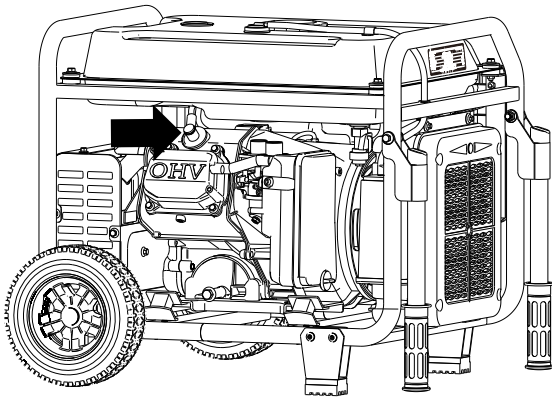

Figure 14: Slide off spark plug cover
3. Remove the spark plug boot by firmly pulling the plastic spark plug boot handle directly away from the engine (see Figure 14).